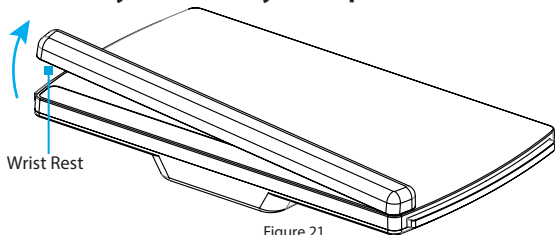

Figure 21
1. Carefully peel the **Plastic Wrist Rest** off the **Keyboard Tray**. (Figure 21)